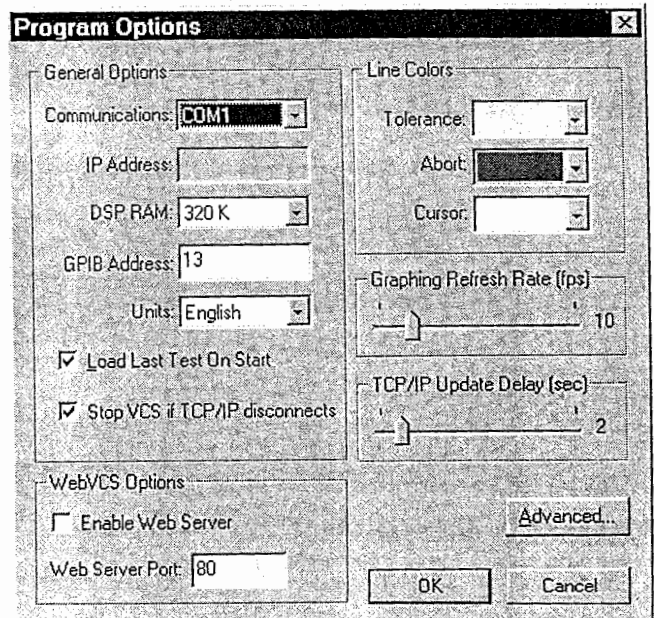

Figure 6-12. Program Options Window.
8. Select the General Options command from the Options menu to open the Program Options window. See Figure 6-12.
1. Select General Options from the Options menu to display the Program Options dialog box. See figure 6-12.